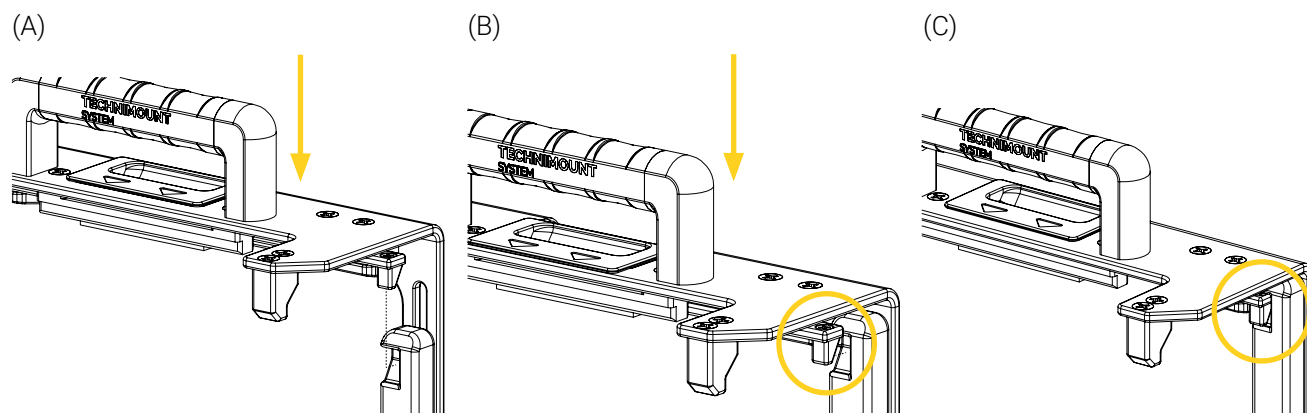

Figure 9: Retracting and locking the BP76–FL MCD
1. Push down on the top handle until the locking blocks insert in the locking points and you hear the click sound (Figure 9).